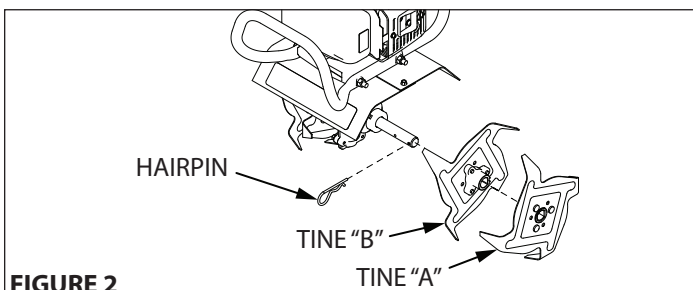

FIGURE 2
2. Place tine "B" on the tine shaft, followed by tine "A". Secure tines with hair pin. **SEE FIGURE 2**